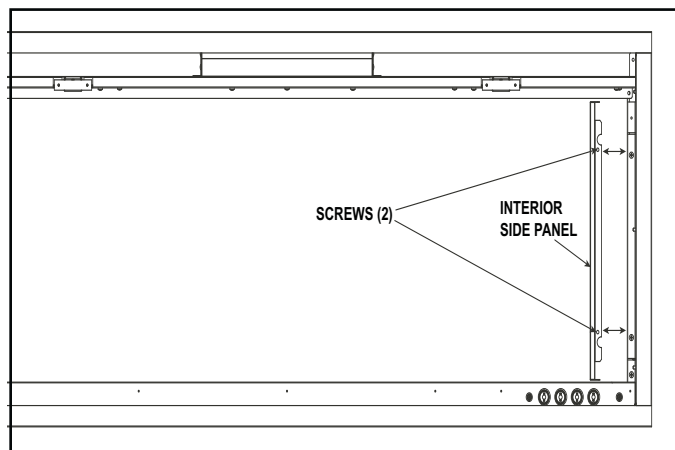

Figure 4.3 Interior Side Panels Covering Attachment Points for Recessed Mounting in 2 X 6 in. Framing
3. Remove interior side panels on left and right of appliance by removing two (2) screws. See Figure 4.3.